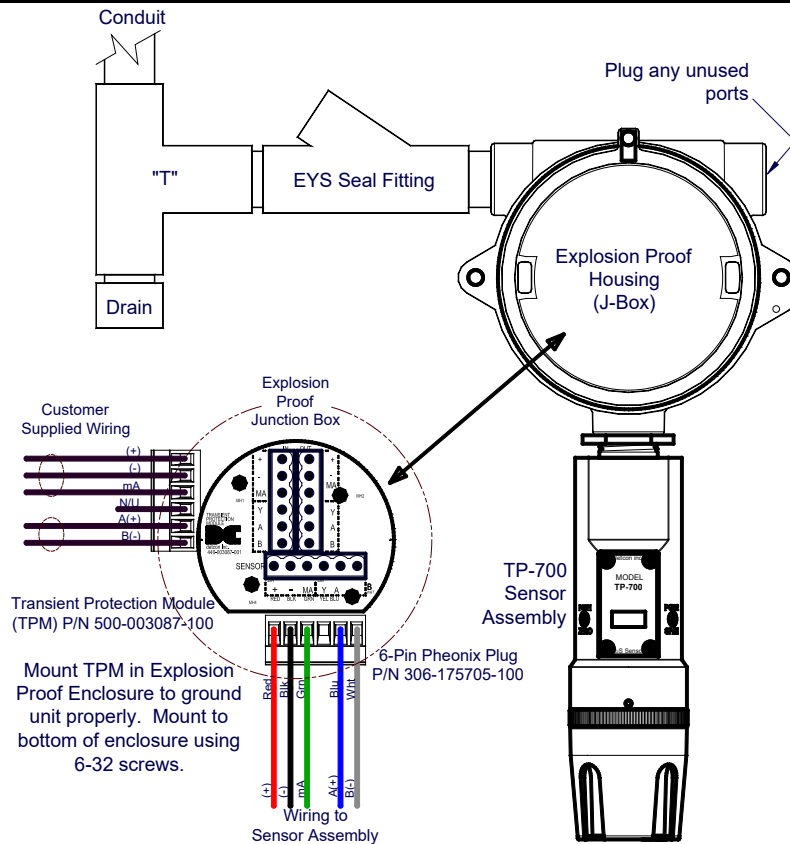
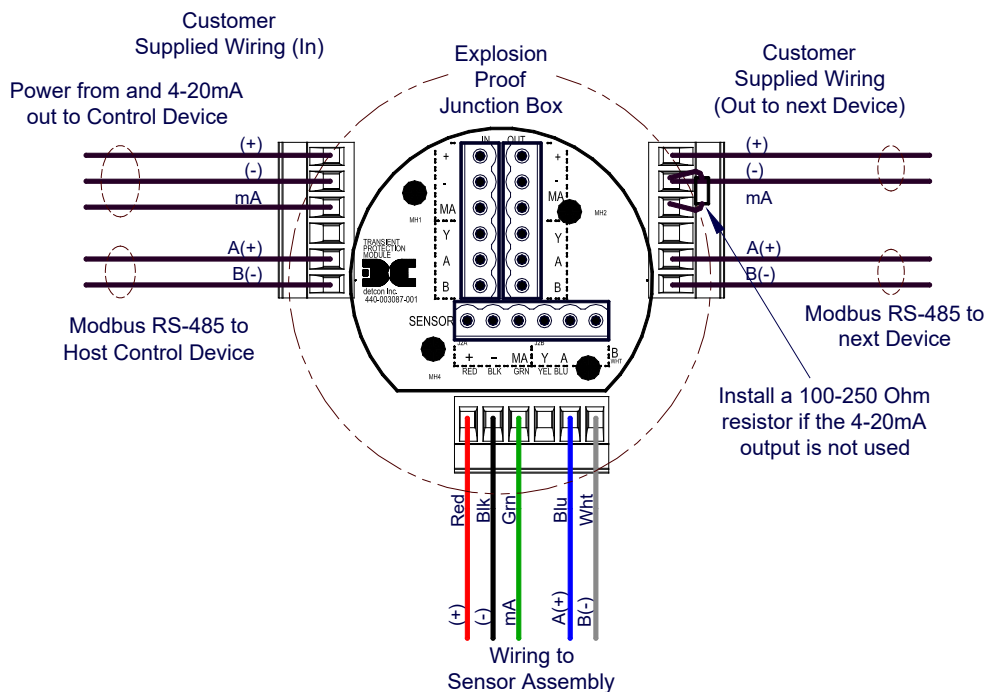

Figure 8 Typical Installation
Figure 9 Sensor Wire Connections
NOTE: In all installations the gas sensor should point straight down (refer to Figure 8). Improper sensor orientation may result in false readings and permanent sensor damage.
Proper electrical installation of the gas sensor is critical for conformance to Electrical Codes and to avoid damage due to water leakage. Refer to Figure 8 and Figure 9 for proper electrical installation.
NOTE: If a conduit run exits the secondary port, repeat the installation technique shown in Figure 8.
In Figure 8, the drain allows H₂O condensation inside the conduit run to safely drain away from the sensor assembly. The electrical seal fitting is required to meet the National Electrical Code per NEC Article 500-3d (or Canadian Electrical Code Handbook Part 1 Section 18-154). Requirements for locations of electrical seals are covered under NEC Article 501-5. Electrical seals also act as a secondary seal to prevent water from entering the wiring terminal enclosure. However, they are not designed to provide an absolute watertight seal, especially when used in the vertical orientation.
NOTE: For products utilizing the aluminum junction box option, the conduit seal shall be placed at the entry to the junction box (see Figure 8 as an example). For products utilizing the stainless steel junction box option, the conduit seal shall be placed within 18" of the enclosure. Crouse Hinds type EYS2, EYD2 or equivalent are suitable for this purpose.
- b) Observing correct polarity, terminate the 3-conductor 4-20mA field wiring (+, -, and mA) to the sensor assembly wiring in accordance with the detail shown in Figure 9. If the 4-20mA output is not used, the green wire from the sensor must be connected to the (-) terminal on the Transient Protection Module.
- c) If applicable, terminate the RS-485 serial wiring as shown in Figure 9. Use the second plug (Out) as termination point on the customer side to facilitate a continuous RS-485 serial loop.